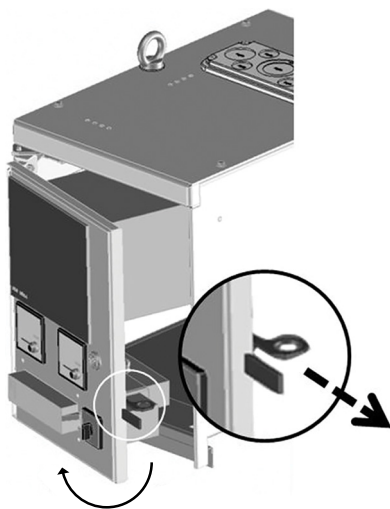

Figure 3-17: Blocking handle
3. For certain secondary equipment, an additional handle is in place on the door to block full door opening. Pull the handle outward to activate the hinge in the door to enable full door opening; see figure 3-17.